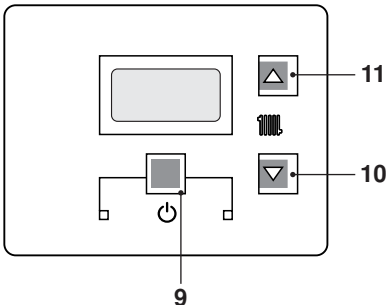
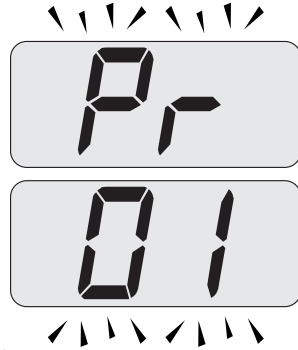
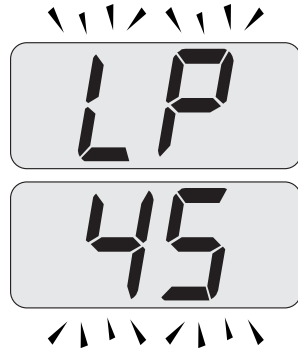

Fig. 9.10
Fig. 9.11
Fig. 9.12
- Enter in "programming mode" by pressing keys 9- 10- 11(Fig. 9.10) for 10 seconds at the same time until the letters **Pr** that alternate with code **01** are displayed on the LCD display, indicating that "parameter 01"(Fig. 9.11) has been activated.
- Press keys 10 and 11(Fig. 9.10) at the same time until the LCD display displays the letters **LP** that alternate with the heating water temperature value (e.g. **45**), indicating the activation of the "chimney sweep function" at minimum output (Fig. 9.12).
- Press keys 9- 10- 11 (Fig. 9.10) at the same time again to exit the "chimney sweep mode" and return to the previously set boiler status (Fig. 9.15).